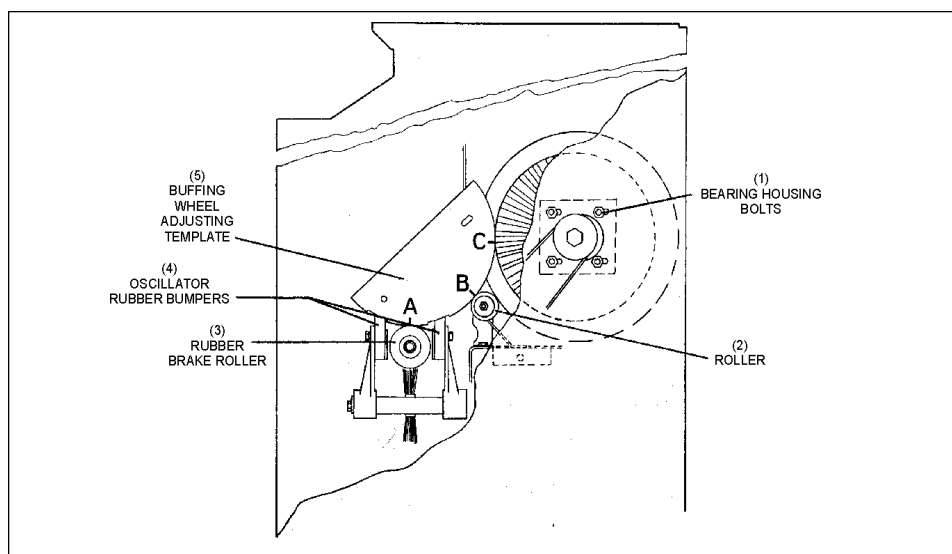

Figure 12. Template Position
(1) LEADING EDGE
(2) TRAILING EDGE
7. Position the template inside the ball compartment with point "A" on the center of the ball roller and point "B" against the steel guide roller beneath the buffing wheel. Refer to *Figure 12*.